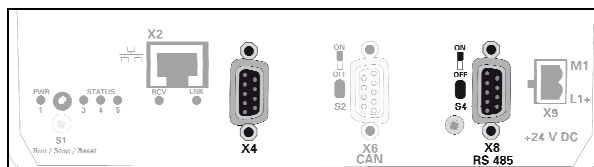

Fig. 10: Serial interface
- RS 232 [X4 / X5: COM1 / COM2] (Fig. 10/5)
- RS 485 [X8 : COM3] (Fig. 10/9): This interface is optically isolated.